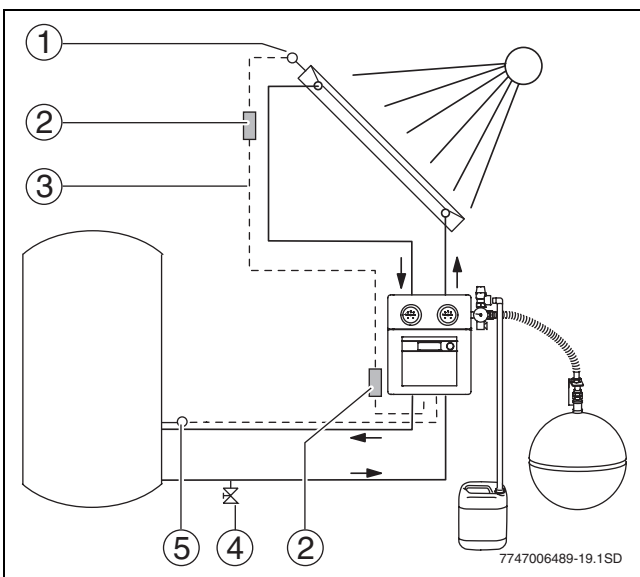

Fig. 12 Collector and storage tank temperature sensors to solar pump station with built-in controller
- ▶ Install a fitting into the return pipe at the lowest point in the solar heating system for draining the solar heating system (tee with fill & drain valve, → Fig. 12, (4)).